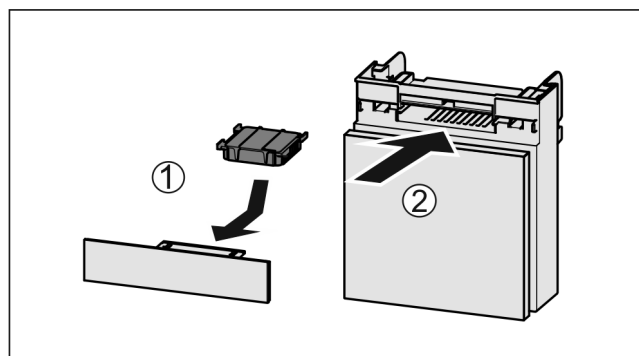

Fig. 87
- ▶ Insert the carbon filter as shown in the diagram Fig. 87 (1).
- ▶ Push the compartment in *Fig. 87 (2)*.